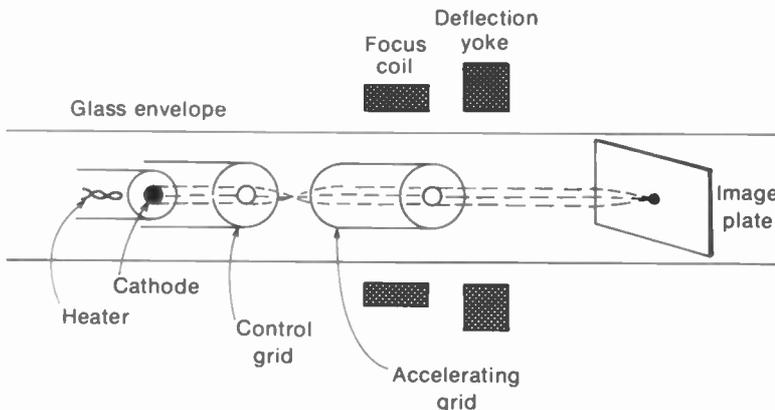

FIGURE 3-5 ELEMENTS OF AN ELECTRON GUN, ILLUSTRATED FOR VIDICON CAMERA TUBE.
**The electron scanning beam.** An electron gun produces a narrow beam of electrons for scanning. In camera tubes, the electron beam scans the image plate or target plate; in picture tubes, the electron beam scans the fluorescent screen. Enclosed in a vacuumed glass envelope, the gun assembly has a heater, cathode, control grid, and one or more accelerating grids (Fig. 3-5). Since the electrons emitted from the cathode must be concentrated in a beam, the